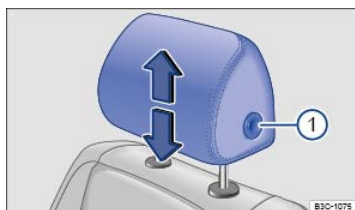

Fig. 83 Adjusting the front head restraints.
- While pressing the button ⇒ Fig. 83①, pull the head restraint up or push it down ⇒ .